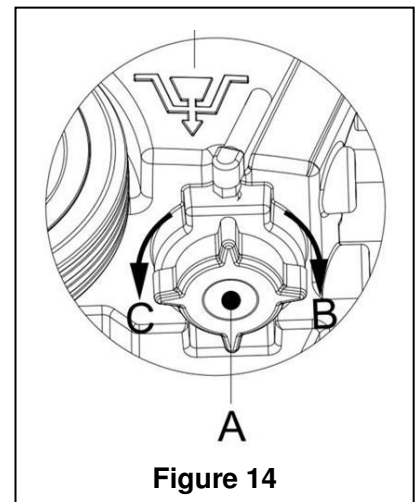

Figure 14
7. As shown in Figure 14, turn open the lid of Solution tank (A) counter clockwise (direction C), to drain Solution tank completely. Use clean water to rinse the inside of Solution tank. When work is completed, replace the solution tank lid (A) by twisting in a clockwise in direction (B).